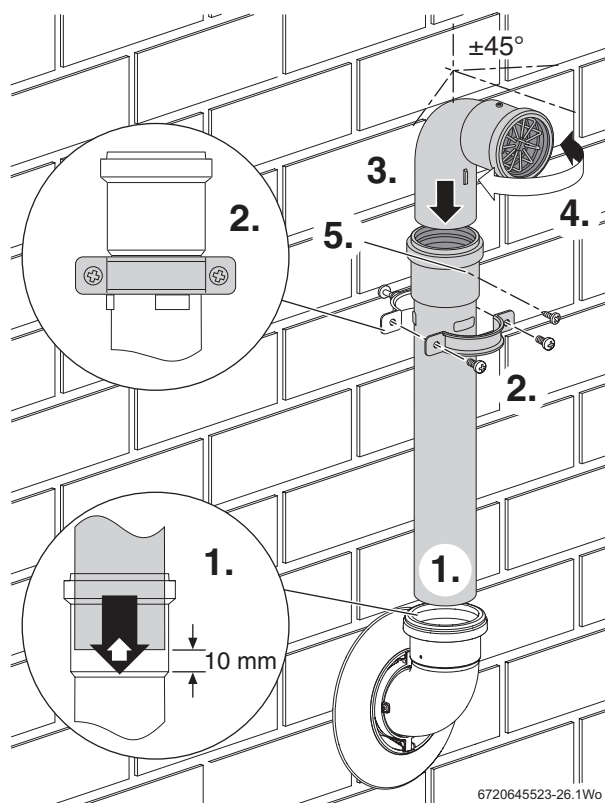

Fig. 44 Plume management installation
3. Mark the position for the wall clamp so that it coincides with the extension tube just below the top fitting (Refer to figure 44 point 2). Drill a hole to suit the wall plug and fit the wall plug.
Refer to figure 44 plume management installation.